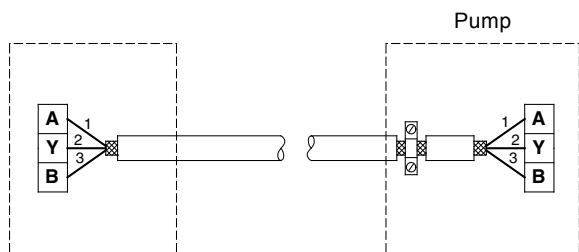

Fig. 10 Connection with screened 3-core cable
- If the unit has no cable clamp as shown in fig. 10, leave the screen unconnected at this end.